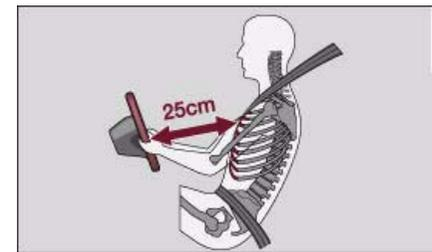

Fig. 98 Minimum distance from steering wheel
- It is important for the driver and front passenger to maintain a distance of at least 25 cm from the steering wheel or dashboard ⇒ *page 117, fig. 98*. The airbag system will not be able to give the required protection if you sit too close to the steering wheel or dashboard. There is also a risk of injury if the airbags are inflated. The front seats and head restraints must always be positioned correctly for the height of the occupant.